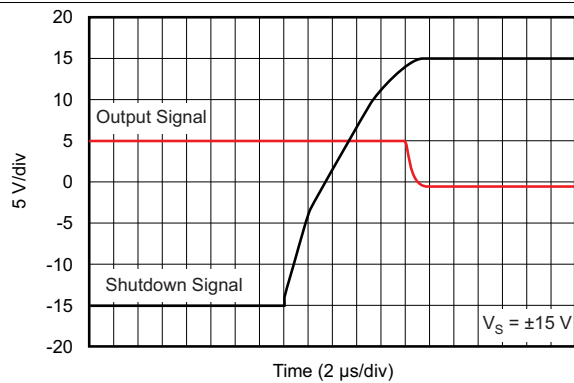

Figure 39. Turnoff Transient
(1) When disabled, the output assumes a high-impedance state.
(2) See Typical Characteristics curves (Figure 39 through Figure 41).
The shutdown (enable) function of the OPA211 is referenced to the positive supply voltage of the operational amplifier. A valid high disables the operational amplifier. A valid high is defined as $(V+) - 0.35$ V of the positive supply applied to the shutdown pin. A valid low is defined as $(V+) - 3$ V below the positive supply pin. For example, with V_{CC} at ± 15 V, the device is enabled at or below 12 V. The device is disabled at or above 14.65 V. If dual or split power supplies are used, make sure the valid high or valid low input signals are properly referred to the positive supply voltage. This pin must be connected to a valid high or low voltage or driven, and not left open-circuit. The enable and disable times are provided in the Typical Characteristics section (see Figure 39 through Figure 41). When disabled, the output assumes a high-impedance state.